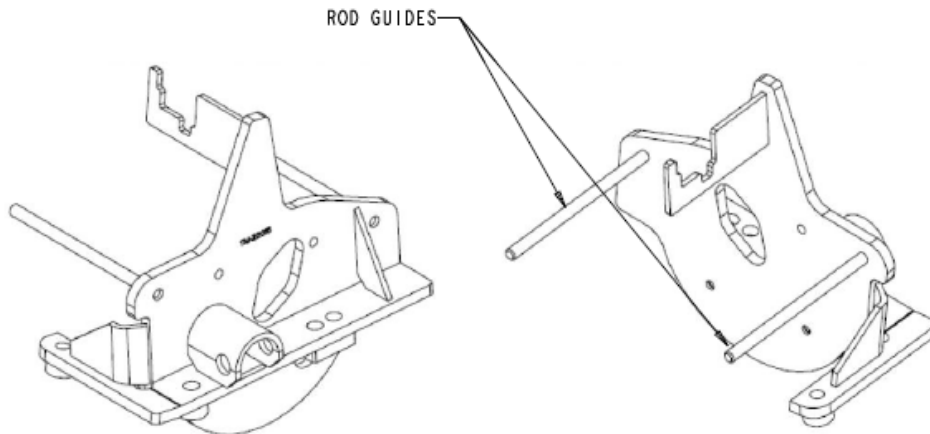

Figure 8. Pre-2009 Air Actuator Bracket
- 7.8.5 If pre-2009 air actuator bracket is inspected, see Figure 8, and accepted per the criteria above, rod guides are to be removed and ground flush with bracket and flat. Actuator bracket may be reused with rod guides removed.